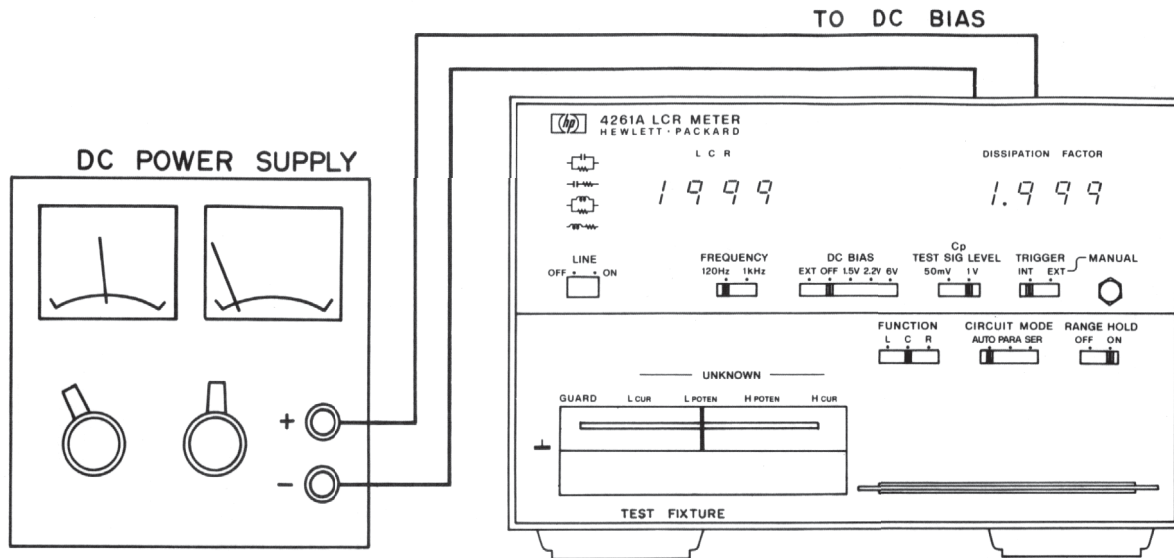

**Figure 3-6. Accuracy.**
3-17. Accuracy. Figure 3-6 is a graphic representation of the accuracy specifications provided in Table 1-1. The horizontal axis for all curves is the reading of the 4261A in counts and the vertical axis
6. Read measured value on display. Refer to Figure 3-6 for accuracy of reading.
7. Read displayed values. Refer to Figure 3-6 for accuracy.